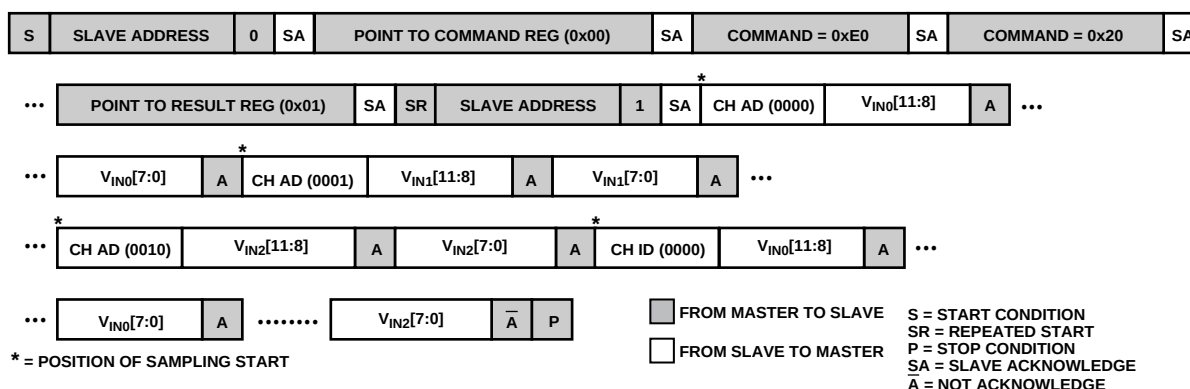

Figure 28. Command Mode Operation
The example in Figure 28 shows the command mode converting on a sequence of channels including V_{IN0} , V_{IN1} , and V_{IN2} .
- The example in Figure 28 shows the command mode converting on a sequence of channels including V_{IN0} , V_{IN1} , and V_{IN2} .